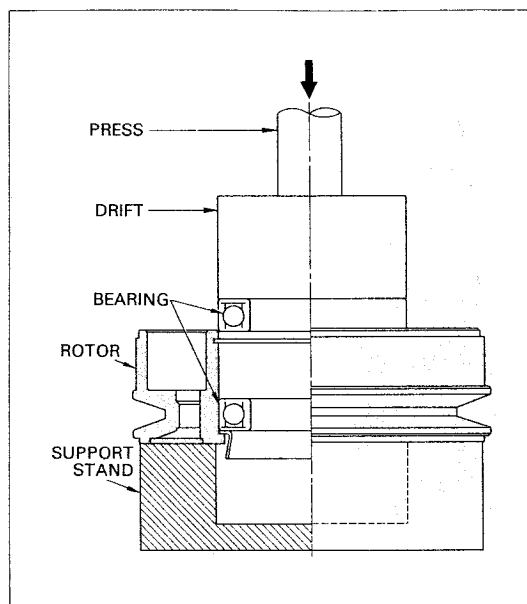

Fig. 85
- 2) Insert a shield ring, two pieces of new bearing and a collar into the rotor boss till fully seated. See Fig. 85.